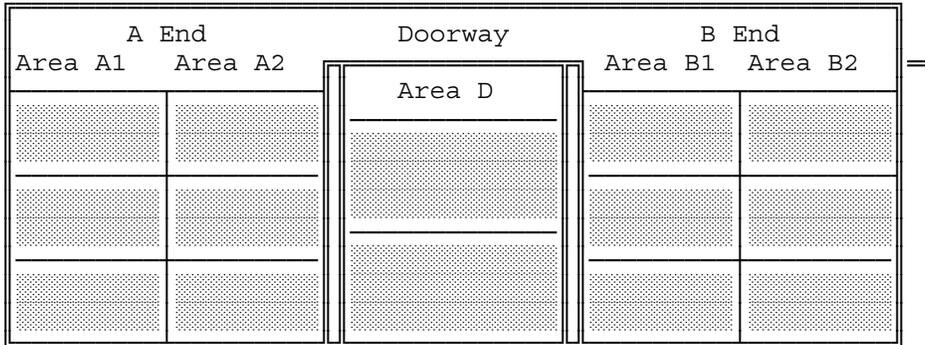

Figure 1. Side View - Areas and Sections of a Boxcar
- (1) Mentally divide the carrier into areas (A1, A2, D, B1, and B2) and sections (three sections for all but D; two sections for D). See figure 1.